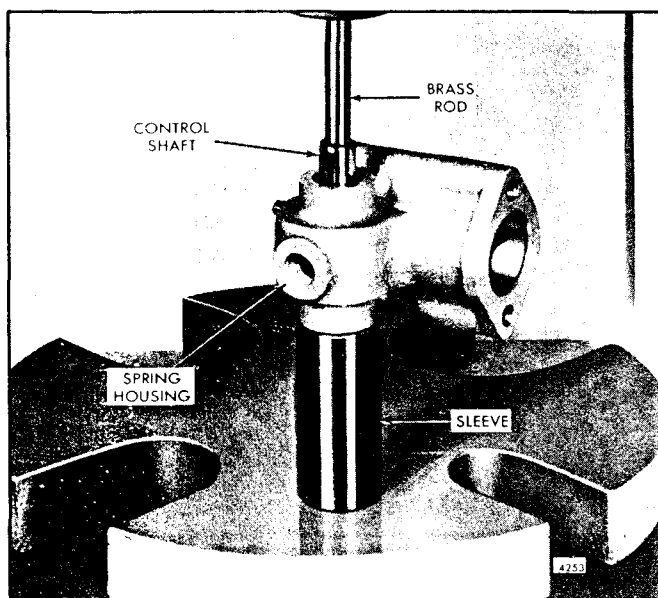

Fig. 5 - Removing Speed Control Shaft, Bearing and Cup plug from Governor Spring Housing
- e. Place a small brass rod on the end of the shaft and under the ram of the press as shown in Fig. 5 and press the plug and bearing out of the spring housing.